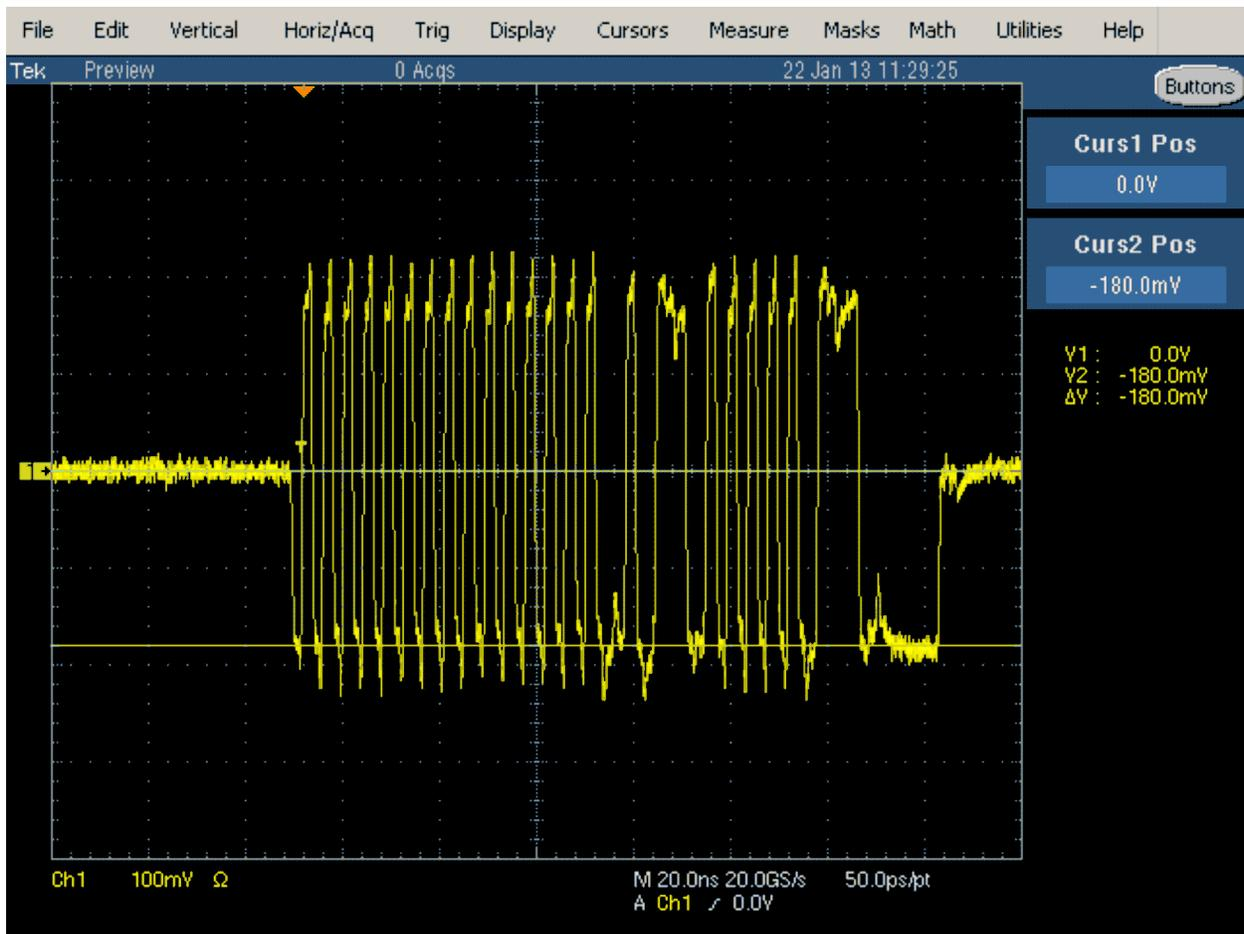

Figure 11. Receiver-Sensitivity Test Results (a)
17. Verify that all packets from the data generator are NAK'd by the port under test as in Figure 11. Record the Pass/Fail in EL_18.
21. Measure the Zero to Positive Peak of the packet from the data generator as in Figure 11 using the cursors. The peak should be taken at the plateaus of the wider pulses to avoid inflated reading due to overshoots.
23. Measure the Zero to Negative Peak of the packet from the data generator as in Figure 11 using the cursors. The peak should be taken at the plateaus of the wider pulses to avoid inflated reading due to overshoots. Record the measurement in EL_17. As long as the receiver continues to NAK the data generator packet above +/- 150 mV, the device is considered to have passed the test. Record PASS/FAIL in EL_17.
25. Measure the Zero to Positive Peak of the packet from the data generator as in Figure 11 using the cursors. The measurement is best made by turning on the Fit To Screen function in the Horizontal menu of the oscilloscope to maintain sufficient sampling rate. The peak should be taken at the plateaus of the wider pulses to avoid inflated reading due to overshoots. Record the measurement in EL_16.
26. Measure the Zero to Negative Peak of the packet from the data generator as in Figure 11 using the cursors. The peak should be taken at the plateaus of the wider pulses to avoid inflated reading due to overshoots. Record the measurement in EL_16. As long as the receiver ceases to NAK the data generator packet below +/- 100 mV, the receiver is considered to have passed the test. Record PASS/FAIL in EL_16.